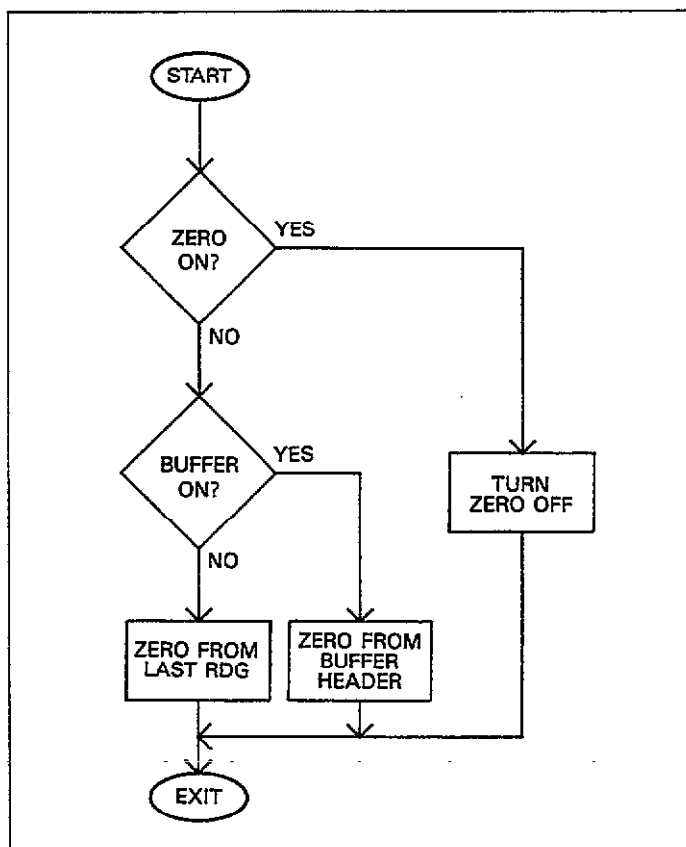

Figure 3-12. Zero Operation Flowchart
6. If the buffer is enabled (BUFFER KEY), the zero values will be obtained from the buffer header. Figure 3-12 shows a flow chart of zero operation both with and without buffer operation.